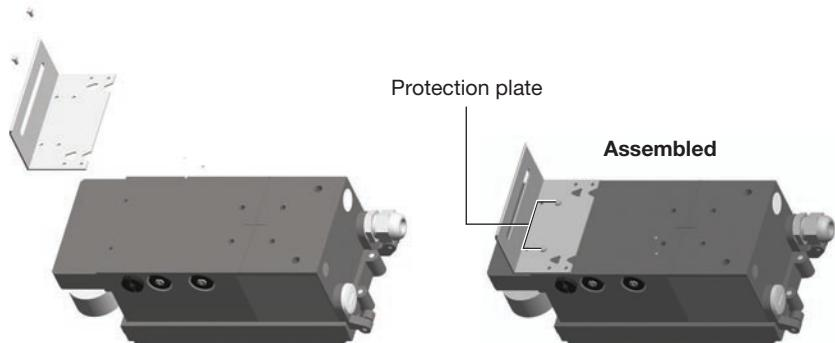

**Fig. 9** Pillar actuator assembly
- 5.2.4** Loosely attach the positioner mounting plate to the actuator as shown in the following pictures: for the pillar actuator (Figure 9), and for the yoke actuator (Figure 10).